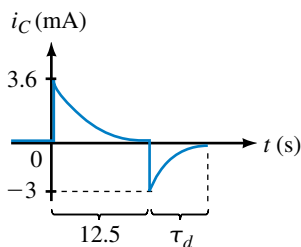

FIGURE 11–59
33. For the circuit of Figure 11–55, the capacitor is initially uncharged. The switch is first moved to charge, then to discharge, yielding the current shown in Figure 11–59. The capacitor fully charges in 12.5 s. Determine E , R_2 , and C .
34. Refer to the circuit of Figure 11–60: